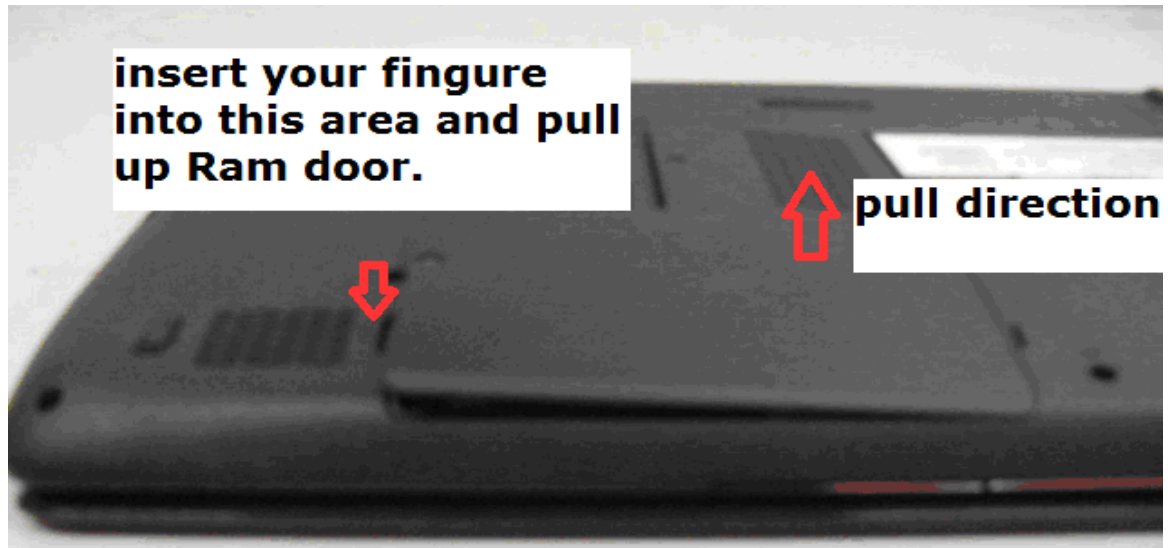

Figure 4-4-2 Pull up Ram door.
4. Pull up Ram door. (Figure 4-4-2)